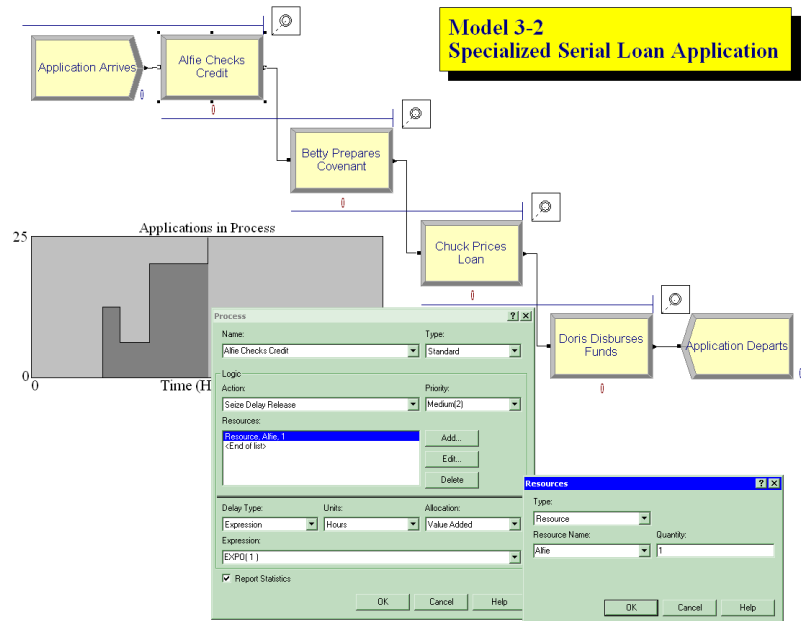

Figure 3-26. Completed Model 3-2 with the First Process Module and its Resources Dialog
An Arena simulation of this, Model 3-2, is fairly straightforward, and essentially just involves adding three Process modules to Model 3-1, along with three more Resources. The completed model is in Figure 3-26, with the first Process module and its Resources dialog open.
- The four Process modules have, as before, the Action of *Seize Delay Release*, but of course have different names for the modules and Resources. Since exponential process times are not among the Delay Type choices, instead choose *Expression* there, and then use the Expression Builder (go to “Random Distributions”) to fill in the Expression field, as seen in Figure 3-26. The time Units here are also Hours.